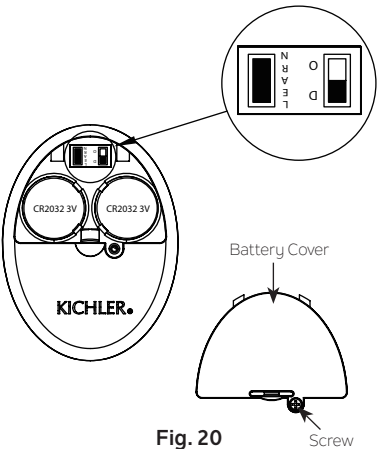

Fig. 20
After installing and wiring the unit, restore power to your fan, press and hold the LEARN key for 1~3 seconds, the fan will turn on at medium speed and light (if installed) will turn on. This confirms that the learning process have been completed. This operation must be completed within 30 seconds after restore power to the fan. (Fig. 20)
NOTE: If the fan has fluorescent lighting, slide to "O" position. If the fan is with incandescent or halogen lighting or LED, slide to "D" position. Factory set is on "D" position. (Fig. 20)
Step 4. Replace the battery cover and tighten with screwdriver. (Fig. 20)